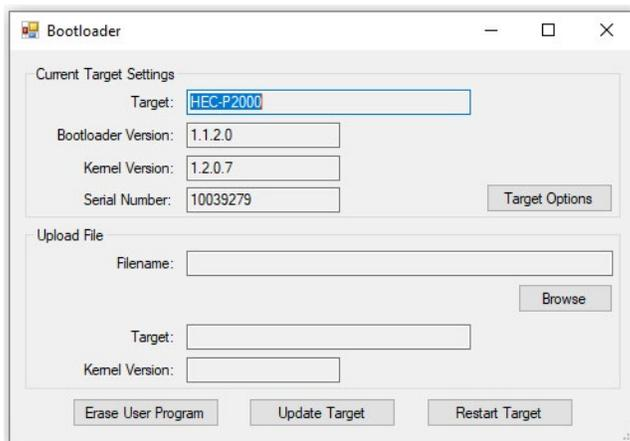

Figure 2.35- HEC-P2xxx Bootloader
7. Using the menu, click **PROJECT** then **BOOTLOADER**. You may see a window momentarily while EZ LADDER connects to the HEC-P2xxx's bootloader. The Bootloader window will open. See Figure 2.35.